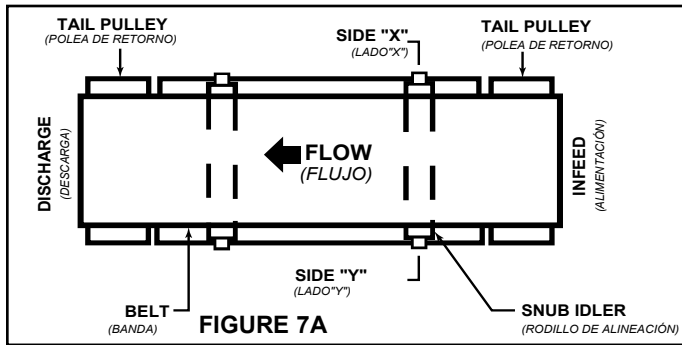

FIGURE 7A
**B)** Having observed belt and determined tracking problem, follow procedures in "How to Steer The Belt", See Figure 7A.
If Belt Direction (FLOW) is reversed, all the above conditions will remain the same as in Figure 7A, **except you are now viewing the conveyor from the opposite end.**